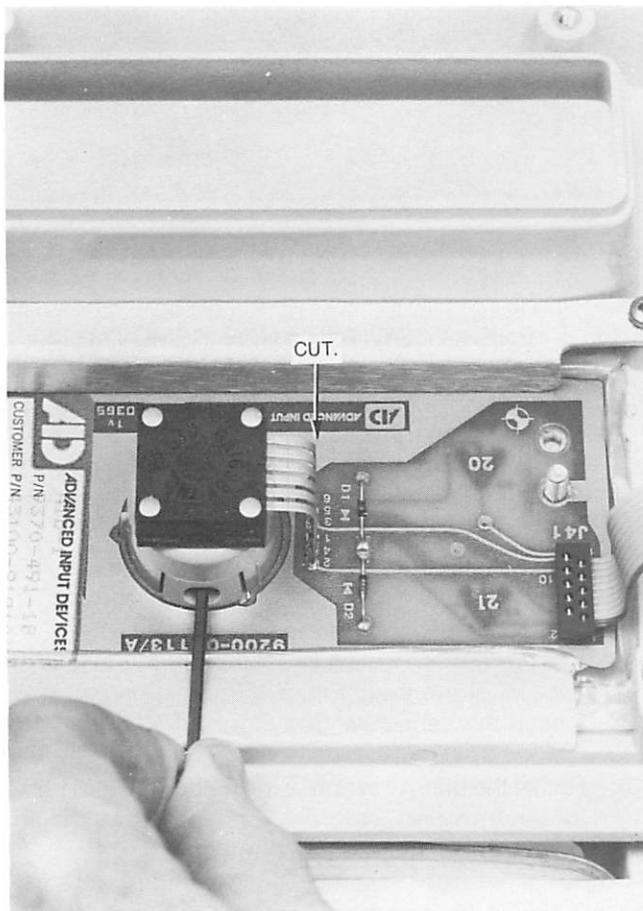

Figure 4-12.
3. Insert a 1/16 inch allen wrench through the hole at the top of the switch (inside the instrument) and loosen the set screw. See Figure 4-12.
3. Clip the six switch conductors near the point where they bend. See Figure 4-12.